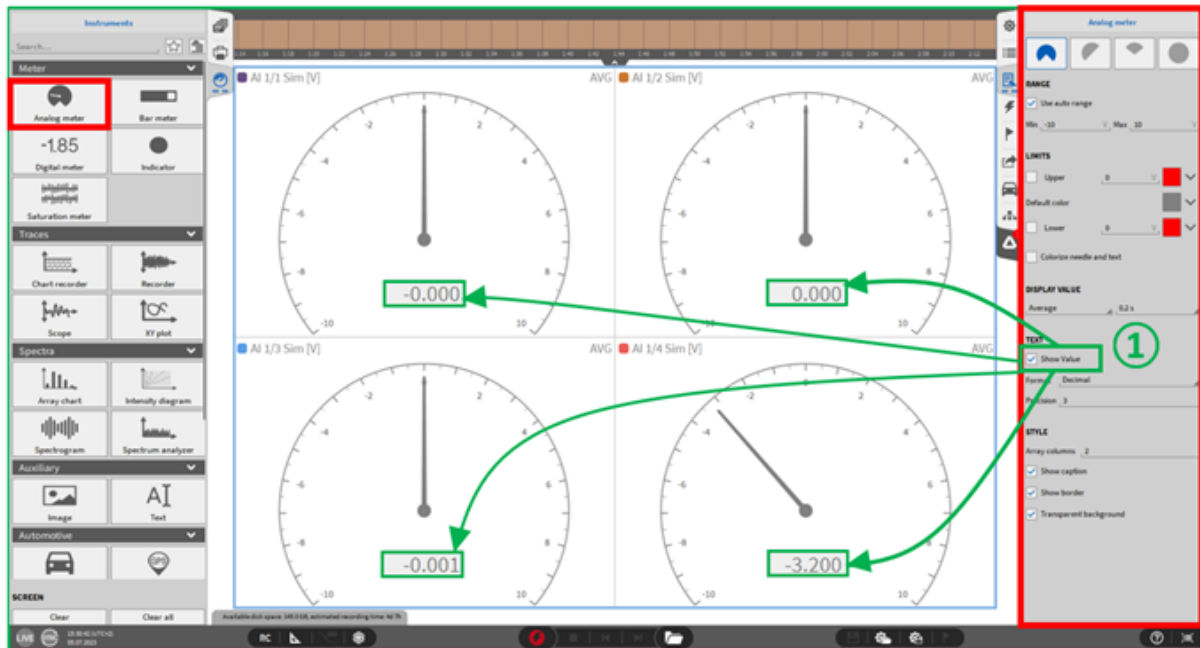

Fig. 8.7: Analog meter - Overview
- Show value: If the checkbox for “Show value” is activated (see ① in Fig. 8.7), the value is additionally shown in digital form in the analog display.